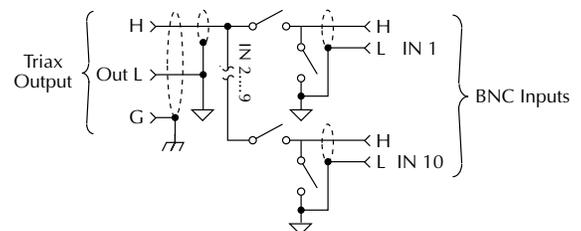

Figure 2-1
Figure 2-1 shows a simplified schematic diagram of the Model 6521. The scanner card has 10 input channels and a single output. Note that each channel utilizes single-pole switching with only the HI signal path switched. Input connections include H (HI), L (LO), while output connections include H, L, and G (chassis ground).